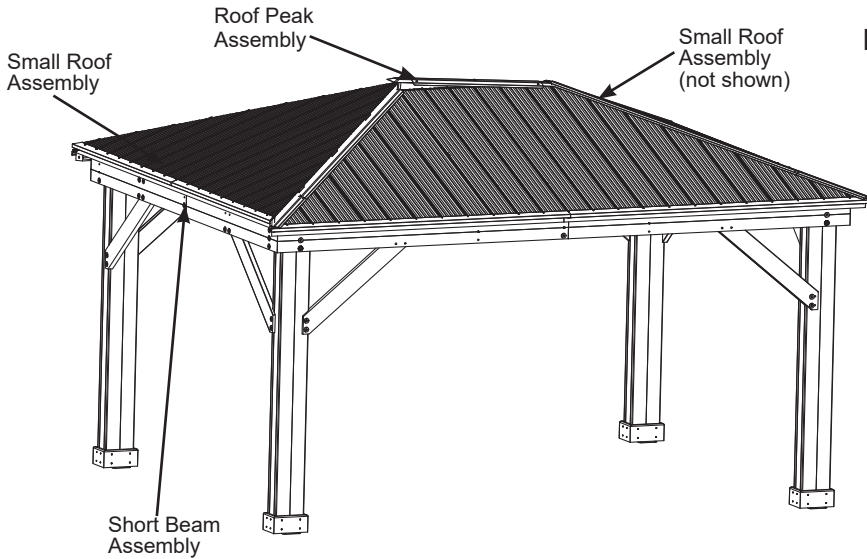

Fig. 19.1
A: With all four assemblers lift one Small Roof Assembly up and over the Short Beam Assembly. You will need to lift the Roof Peak Assembly to get the top under it. Loosely attach each (623) Rafter Corner Right to each (624) Rafter Corner Left with three 1/4 x 2-3/4" Hex Bolts (with two 1/4-5/16" large washers and one 1/4" lock nut) per side. To align bolt holes helper in the centre may have to push up the centre of the panels and others make sure corners are aligned. Make sure all bolts are tight. Joining rafters must be flush on the inside. (fig. 19.1, 19.2 and 19.3)